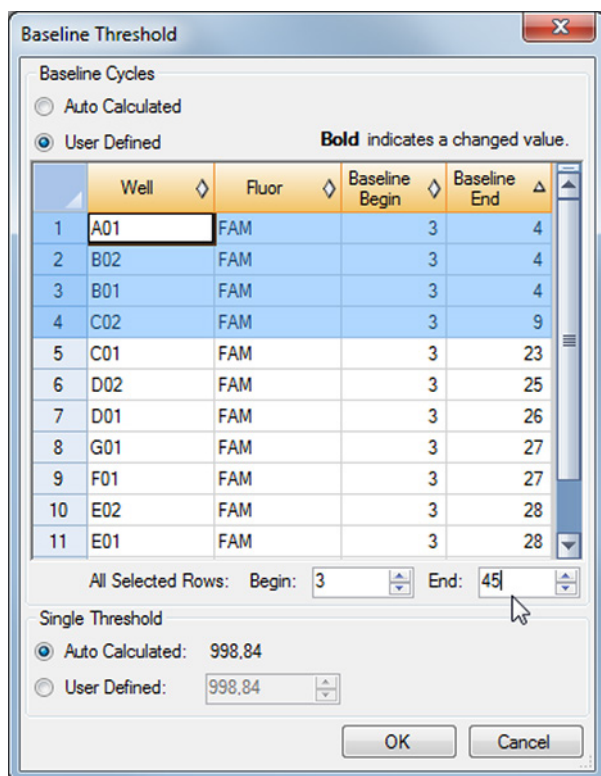

Figure 5: Baseline Threshold dialog
- In the menu bar of the Data Analysis window click **Settings** → **Baseline Threshold...** to open the Baseline Threshold dialog (see figure 5).
- Select all lines that show a **Baseline End** value of 1–9 (see figure 5).
- Set the value in the **End:** field to 45 for the selected lines (see figure 5).
9. Repeat steps 3–7 for the VIC™ (IC), ROX™ [influenza A (H1N1)pdm09 virus] and Cy5 (influenza B virus) detection channels.